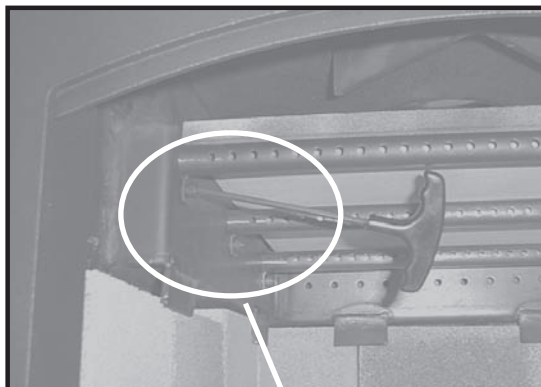

FIGURE 20A - Allen wrench on retainer bolt
2. With a 3/16" allen wrench, remove the 2 front secondary combustion tube retainer bolts on the secondary air channel under the end of the front tubes. **See Figure 20A.** NOTE: Soak the bolts with penetrating oil for at least 15 minutes before trying to remove them.